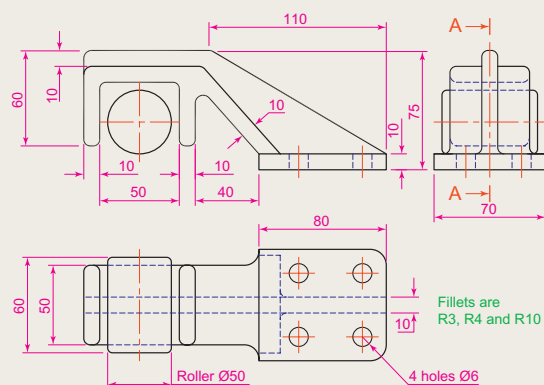

Fig. 8.21 Exercise 2
2. Construct the three-view orthographic projection Fig. 8.21 to the given dimensions with the front view as the sectional view **A–A**.